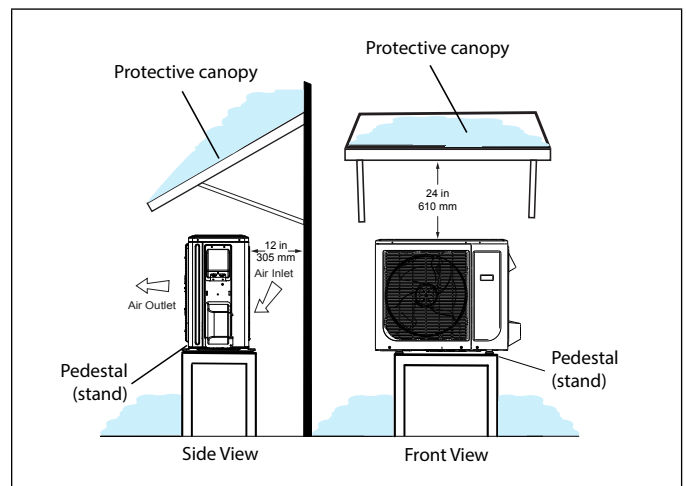
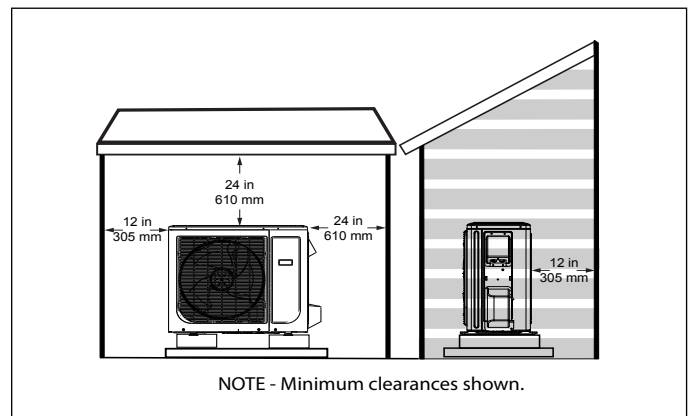

Figure 18. Outdoor Unit on Pedestal and Protective Canopy
Figure 19. Dog House-Style Shelter
- If the outdoor unit is subjected to prolong exposure to direct sunlight with temperatures over 100°F (38°C) a canopy is recommended as illustrated in "Figure 18. Outdoor Unit on Pedestal and Protective Canopy" or "Figure 19. Dog House-Style Shelter" on page 9.
- Place unit away from overhanging roof lines which would allow water or ice to drop on, or in front of, coil or into unit. Construct a canopy as illustrated in “Figure 18. Outdoor Unit on Pedestal and Protective Canopy”.